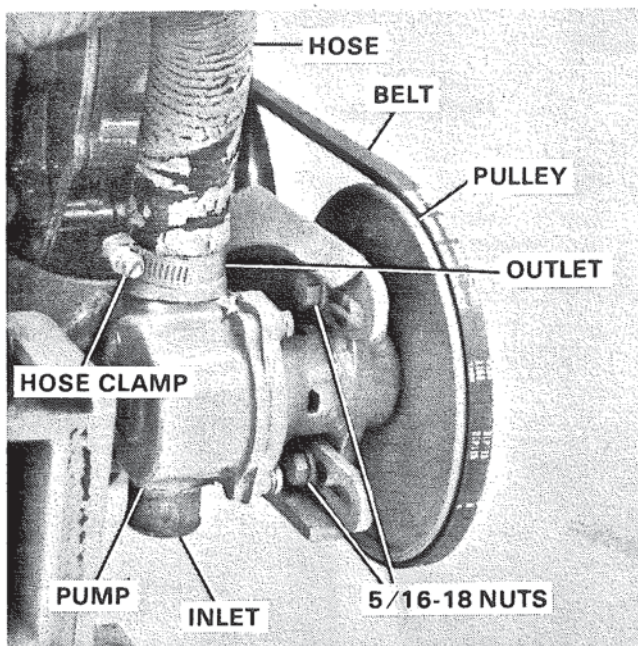

Figure 1. Raw Water Pump.
The raw water pump is located at the lower left hand corner of the engine (when facing front of engine). Figure 1.
- A. Remove two (2) 5/16-18 nuts that secure water pump to mounting bracket. Figure 1.